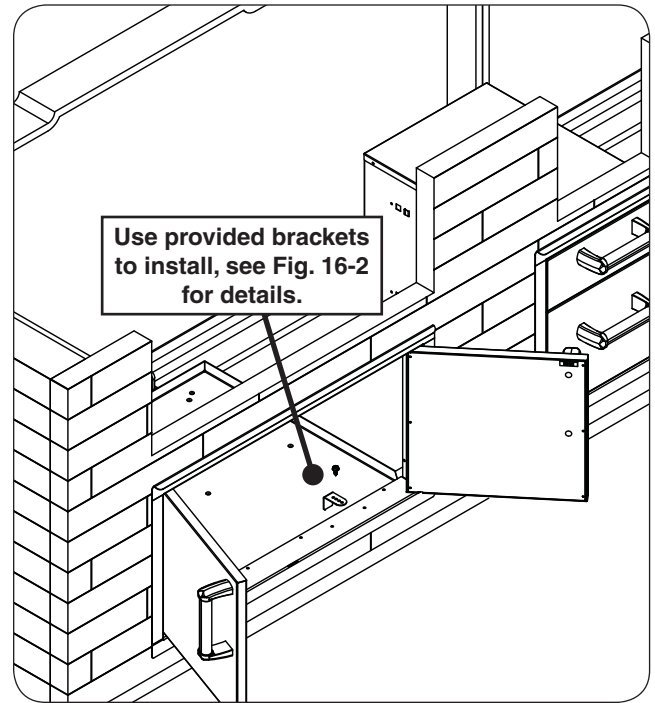
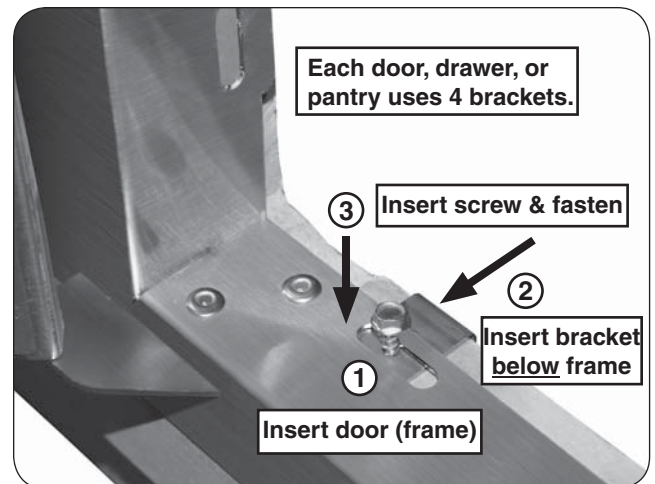
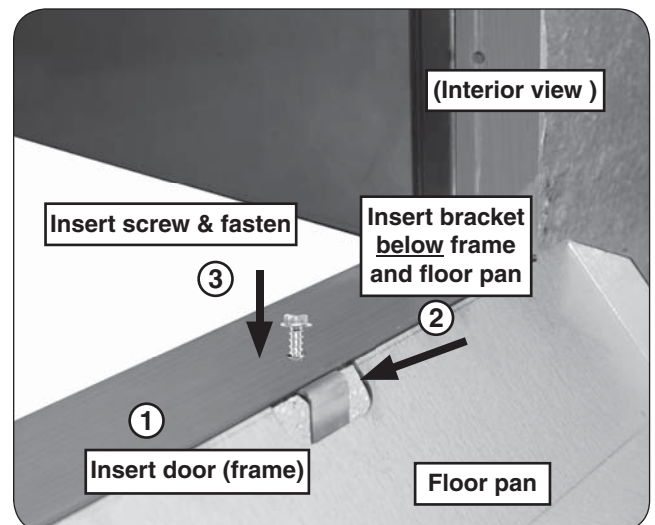

Fig. 16-1 Door/drawer/pantry install detail
Fig. 16-2 Door/drawer/pantry install detail
Fig. 16-3 Door/floor pan install detail
1. Insert your unit completely into the appropriate opening. Ensure it is flush against the exterior wall (see Fig. 16-1, and Fig. 16-2 or Fig. 16-3, step 1).
2. The unit will have 2 oblong cutouts (or round holes) on both the top and bottom of its frame. Insert a bracket where a cutout exists, **below the frame**. See Fig. 16-2 or Fig. 16-3, step 2.
Note: When installing the double door ensure the bracket is inserted **below the frame AND floor pan** (see Fig 16-3).
3. While squeezing the rear of the bracket and the front of the frame **firmly** against the concrete wall, insert a hex screw and tighten with the power drill and 5/16" hex driver (see Fig. 16-2 or Fig. 16-3, step 3). **DO NOT OVERTIGHTEN.**